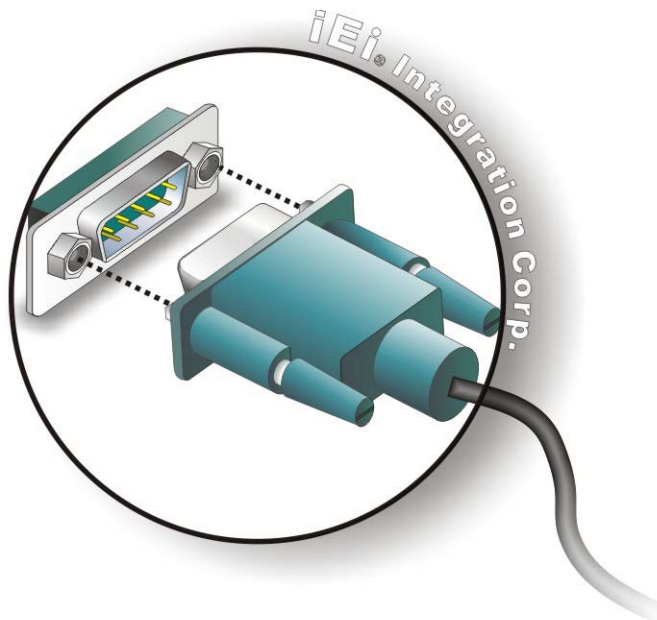

Figure 4-17: Serial Device Connector
Step 2: **Insert the serial connector.** Insert the DB-9 connector of a serial device into the DB-9 connector on the external peripheral interface. See Figure 4-17.